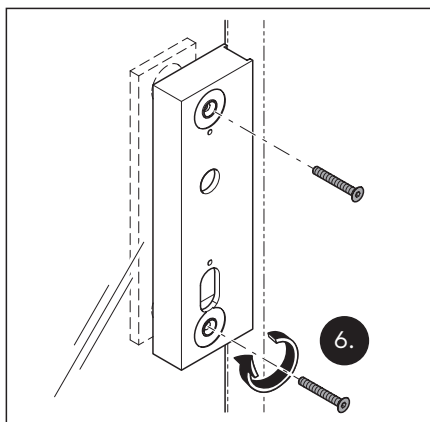

Fig. 15 Connect the lock mortise and the screw-on plate
6. Connect the lock mortise and the screw-on plate loosely through the door with the appropriate screws (Fig. 15).
- Fix the lock mortise and the screw-on plate in place with 10 Nm (see Fig. 15).